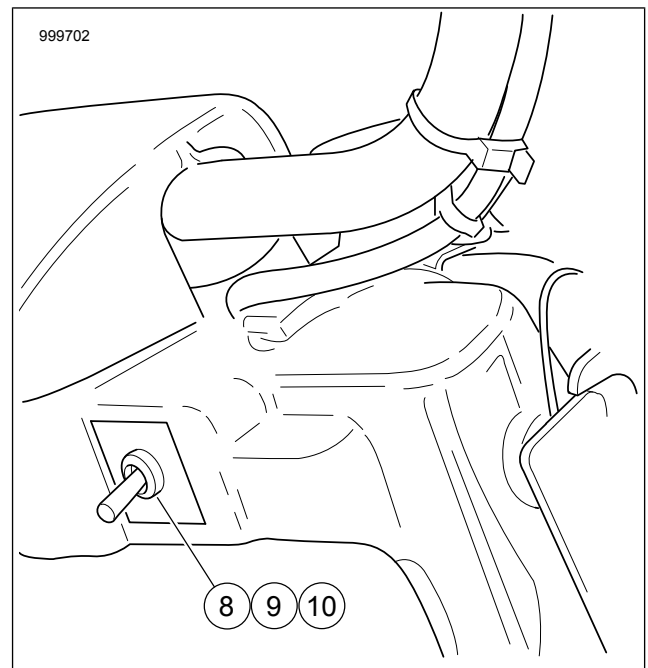

Figure 6. Non-Fairing Switch Location
- a. **Fairing vehicles:** Install switch panel (6) and fan switch (5). See service manual.
- b. **Non-Fairing vehicles:** See Figure 6. Install nut (8), label (9), and switch (10) in right access hole. Plug in switch to harness which is located under the headlamp nacelle. See service manual.